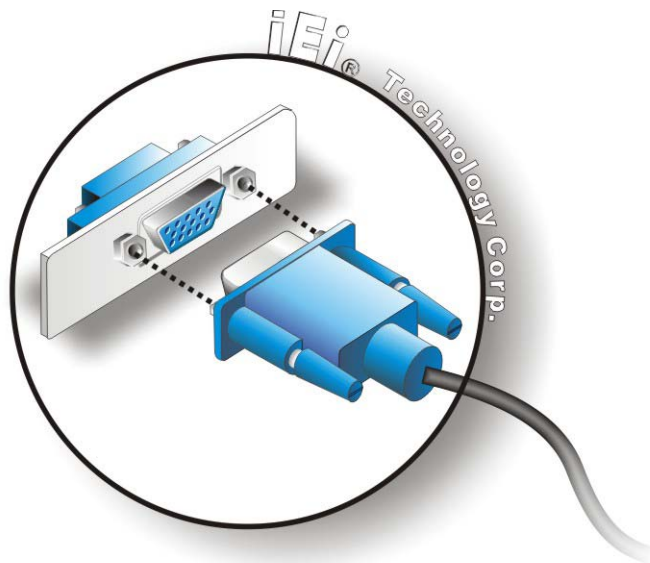

Figure 3-35: VGA Connector
- Step 3: Insert the VGA connector** Once the connectors are properly aligned with the insert the male connector from the VGA screen into the female connector on the UPC-V315-QM77. See **Figure 3-35**.